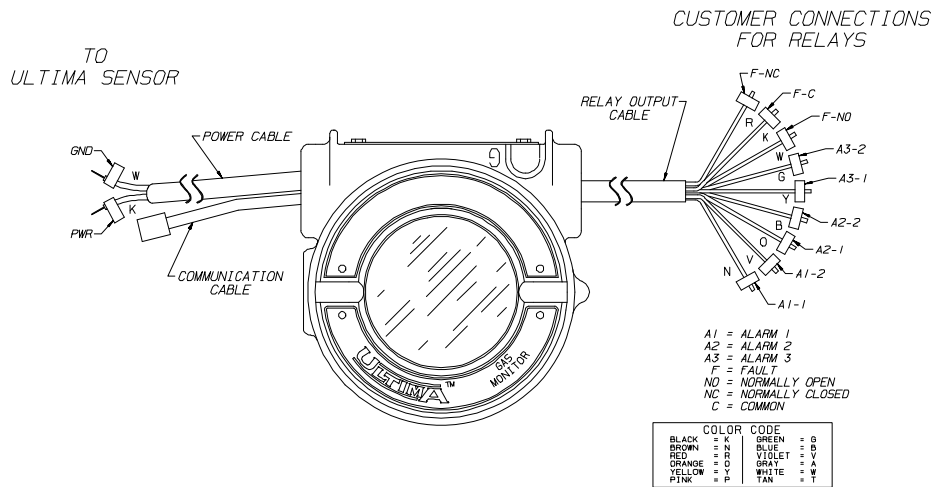

Figure 1-1.
- Ultima Relay Module (P/N 813703 - See FIGURE 1-1)
All electrical connections to the relay module can be made via the factory-installed wiring harness (See FIGURE 1-1). These harnesses are marked to clearly identify all signal connections. There are three cables coming from the Ultima Relay Module: a power cable, a relay output cable and a communication cable.
The power cable has two conductors within it. The Ultima Relay Module must be connected to a DC source between 7 and 30 VDC. Refer to FIGURE 1-1 for conductor identification.
When using the wiring harness provided with the module, refer to FIGURE 1-1 for relay connection. TABLE 1-1 lists the color of the wire and the associated relay function.